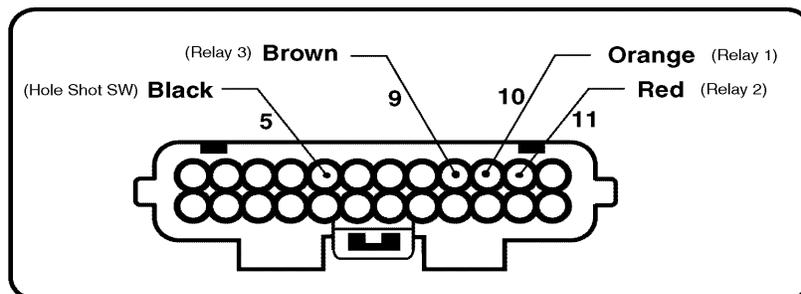

Figure 1
If your T4 ignition does not have a 15" relay cable attached Figure 1 shows the connector locations for the relay control wires.
1. Remove the light blue water seals from the wire holes indicated in Figure 1.
2. Again referring to Figure 1 insert each wire into its respective hole. Note that the metal connector end will enter the hole in only one orientation. If the metal connector does not insert and click into place easily, remove it and try another orientation.